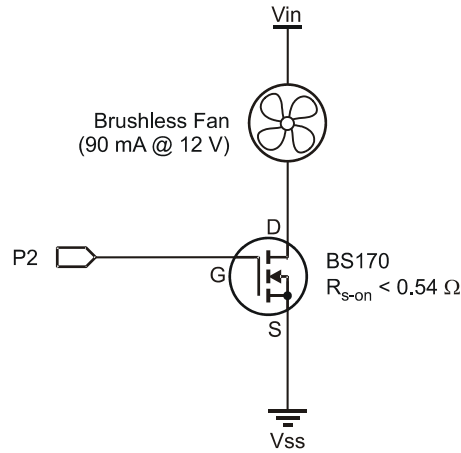

Figure 5-5
- ✓ Replace the 2N3904 transistor that is connected to the fan with the BS170 MOSFET transistor to form the circuit shown in Figure 5-5. Be very careful to observe the proper pin placement.